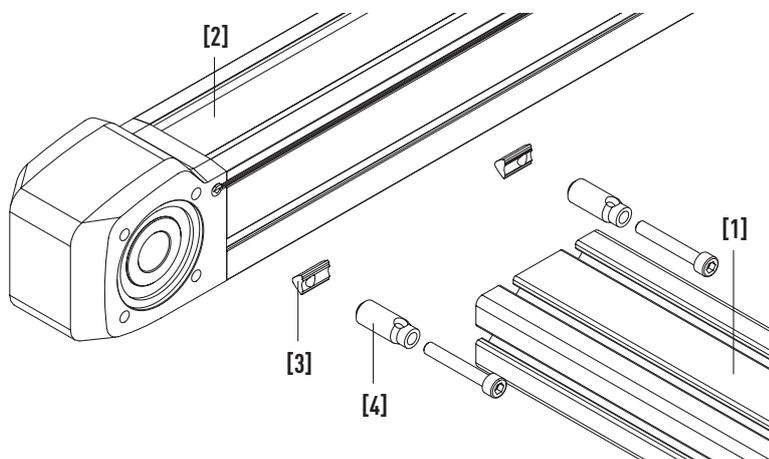

Fig. 6.2 Screwing the automatic fasteners [4] to the T nuts [3]
- ▶ Insert the T nuts [3] into the lateral grooves of the linear axes [2]. Ensure that the threads of the T nuts are facing outwards. (see Fig. 6.2).
- ▶ Arrange the T nuts in such a way that the screws of the automatic fastener [4] in the spacer profiles [1] meet the threads of the T nuts (see Fig. 6.2).
- ▶ Screw the automatic fasteners [4] in the spacer profiles [1] with the T nuts [3] in the linear axes (see Fig. 6.2).